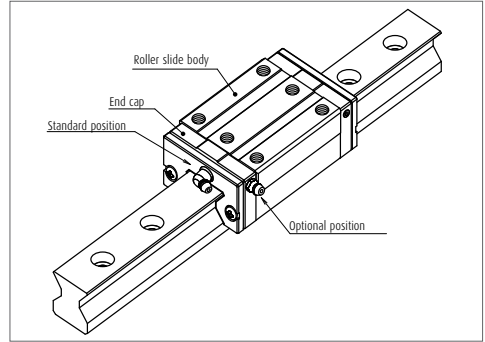

Fig. 12 Mounting position of lubrication accessories
(2) Mounting position of lubrication accessories
- > The standard position of grease fittings and tube fittings is the end face of roller slide. We can mount them on a side of end cap for an option. (Fig. 12) Please consult NSK for installation of grease or tube fittings to the roller slide body or the side of end cap.